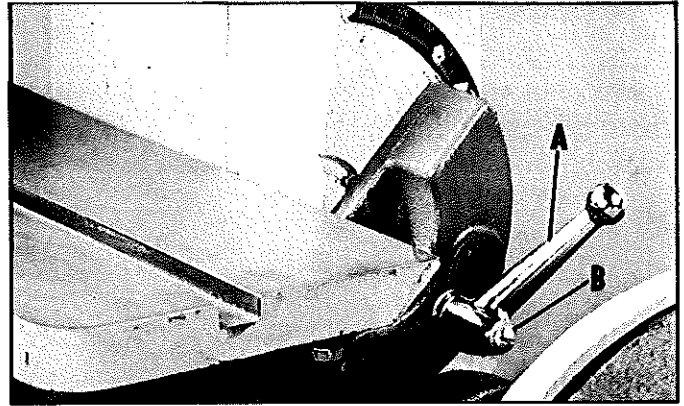

Fig. 13
To tilt the table, loosen the table tilting handle (A) Fig.13, move the table to the desired angle, and lock the table tilting handle. The table tilting handle can be repositioned by loosening the screw (B) four or five turns, pull out the table tilting handle (A) and reposition it on the serrated nut located underneath the handle. Positive table stops are provided at 90° and 45° . To adjust the stops, proceed as follows: